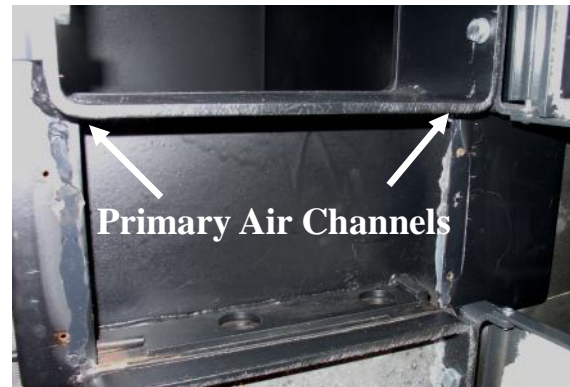

Fig. 4.11 Cover Removed
2. The air channels (**Fig. 4.11**) can then be cleaned with a brush or piece of wire.